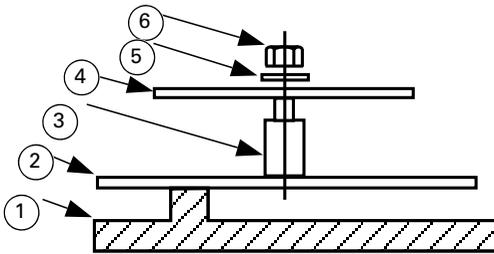

Fig. 7: ANC-8 - PCB Fixing Detail
- 1 Assemble the required ancillary PCBs onto the chassis plate as required, fixing as shown in Fig. 7.
device using the 801AP MX Service Tool. The SNM800 may be programmed with the address prior to being installed by using the internal programming port (see Fig. 7) or after being installed by using the programming port on the front cover (see Fig. 2 on page 2).